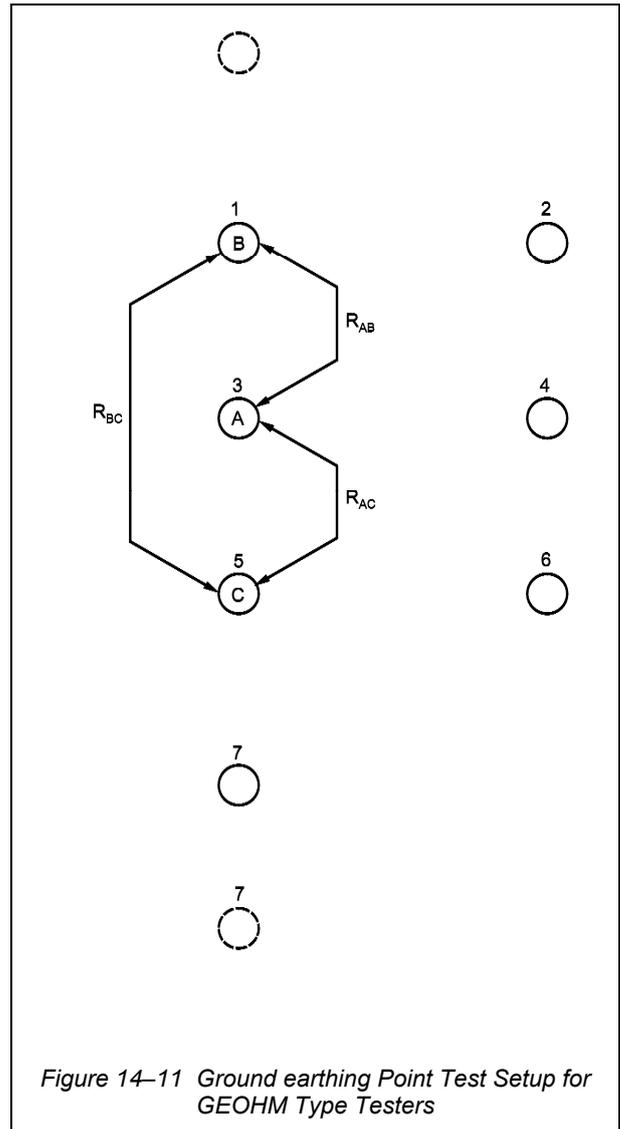

Figure 14–11 Ground earthing Point Test Setup for GEOHM Type Testers
- a. **Three Electrode Method.** This is the preferred method of measuring the earth resistance of an ground earthing point. Using three collinear electrodes, (ie three ground earthing points A, B and C as shown in Figure 14–11), measure the resistance between each in turn. The resistance of earth point A is calculated from: